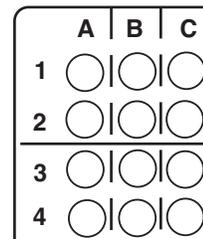

Figure 3
1. Orient the microtiter plate as shown in figure 3. Carefully mark the microtiter plate with your initials or lab group number.